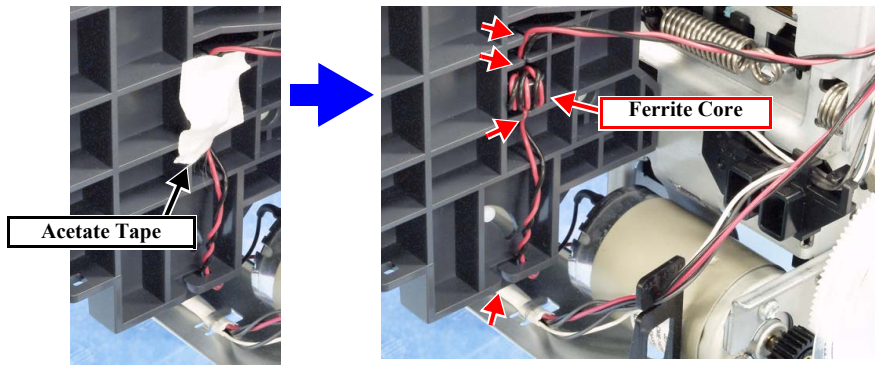

Figure 4-62. Lead Wires on the ASF Assy
4. Release the lead wires of the PF Motor. (Fig. 4-62)
3. At the left side of the ASF Assy, peel off tape, and disconnect the lead wires of the PF Motor from the ASF Assy. (Fig. 4-62)